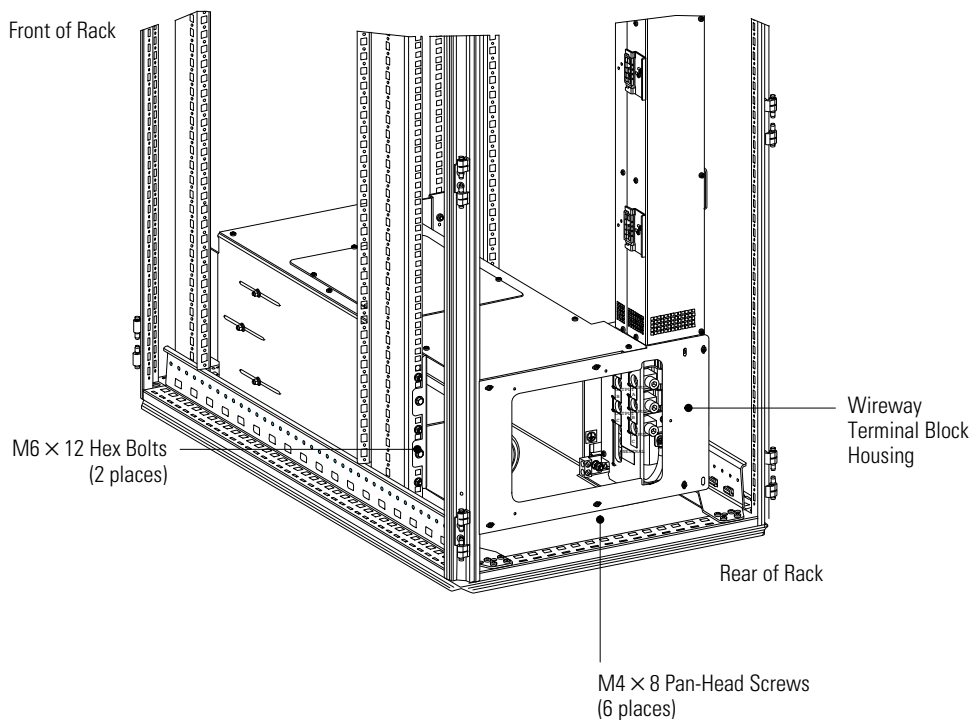

Figure 7. Wireway Terminal Block Housing Installation
18. Using two M6 × 12 hex bolts, secure the left side of the wireway terminal block housing to the rack. See Figure 7. Torque the bolts to 5.1 ± 0.8 Nm (45 ± 7 lb in).
19. Using six M4 × 8 pan-head screws, secure the wireway terminal block housing to the wireway and to the bar. See Figure 7. Torque the screws to 1.7 ± 0.2 Nm (15 ± 2 lb in).